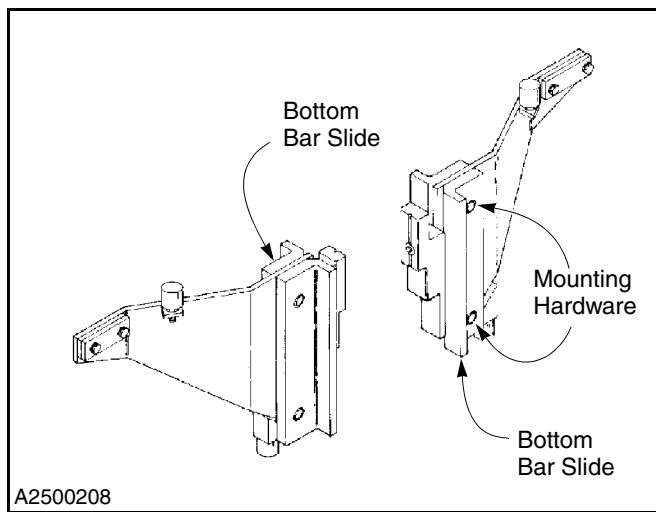

Figure 28
6. Inspect the bottom bar slides and mounting hardware on each end bracket for wear. Replace as required. (See Figure 28.)